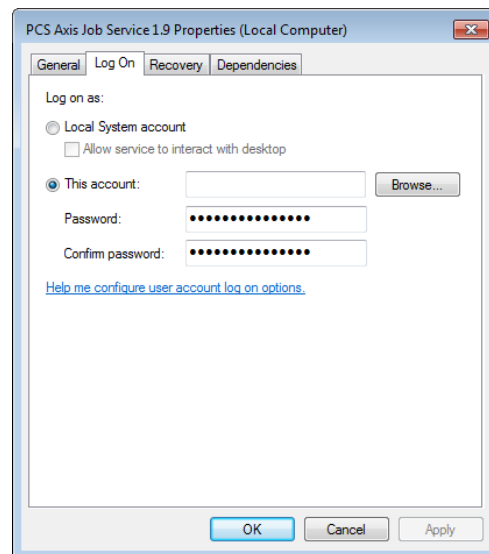
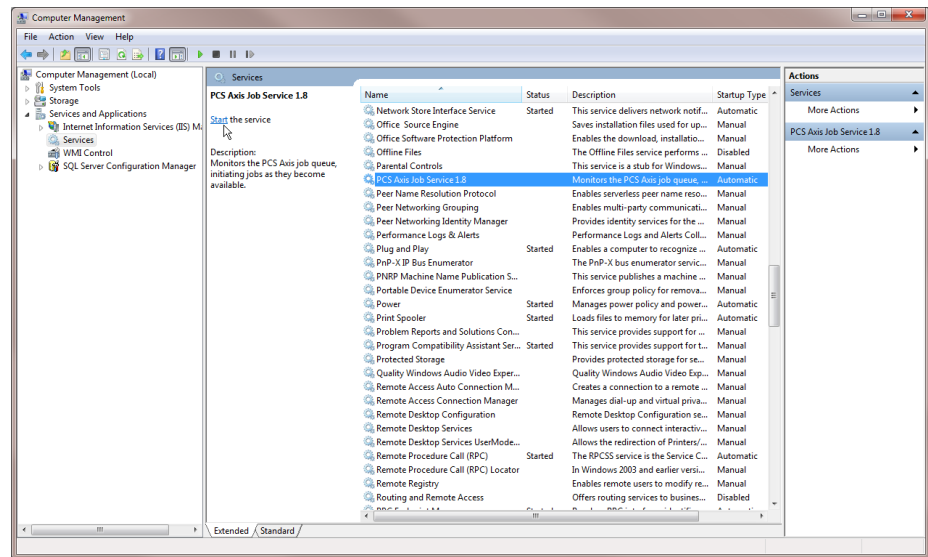

Figure 11-6. PCS Axis Job Service Properties
Figure 11-7. Computer Management Console
- c Right-click **PCS Axis Job Service 1.9** (Figure 11-7) and select **Properties** in the shortcut menu to open the *Properties* dialog box (Figure 11-6).
- a Select **PCS Axis Job Service 1.9** and then click **Start** (Figure 11-7).